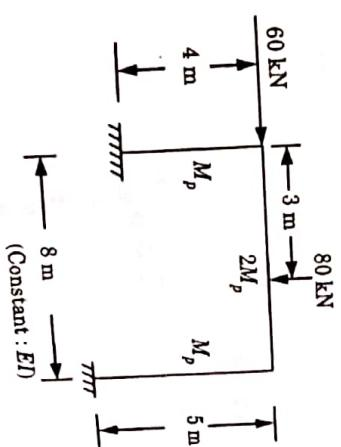

Fig. 4.
- g. Determine the plastic moment capacity  $M_p$  for the frame shown in Fig. 4 given below.